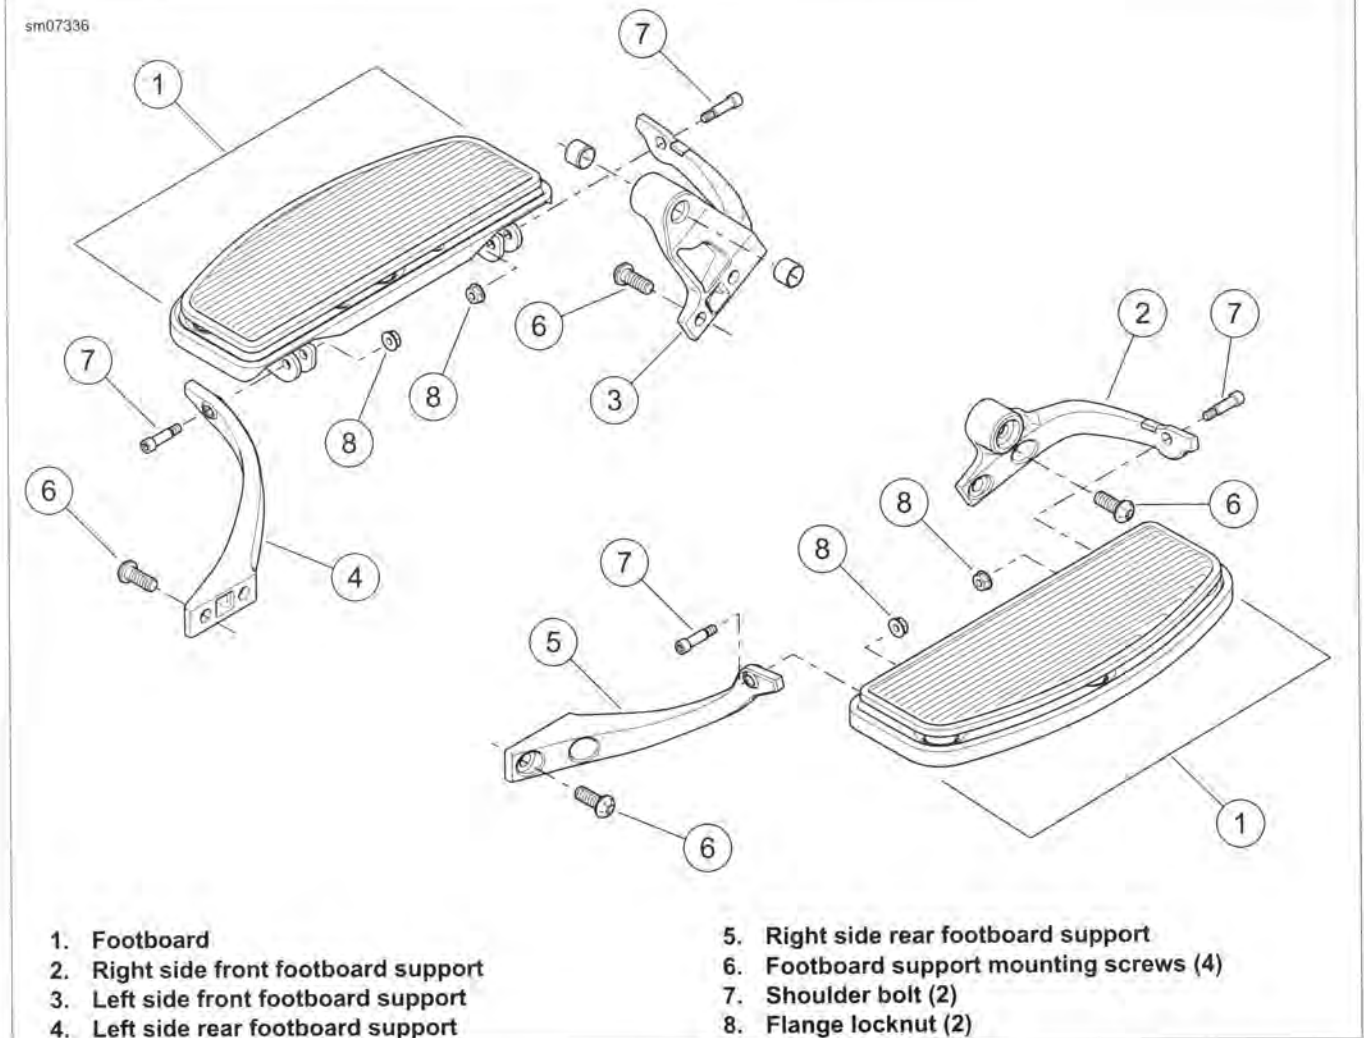

Figure 2-148. Rider Footboards (Quantities shown are for each footboard)
3. See Figure 2-148. Remove footboard support mounting screws (6) from footboard supports.
2. See Figure 2-148. Remove flange locknuts (8) and shoulder bolts (7) from underside of footboard.
1. See Figure 2-148. Install footboard and bracket assembly using footboard support mounting screws (6).